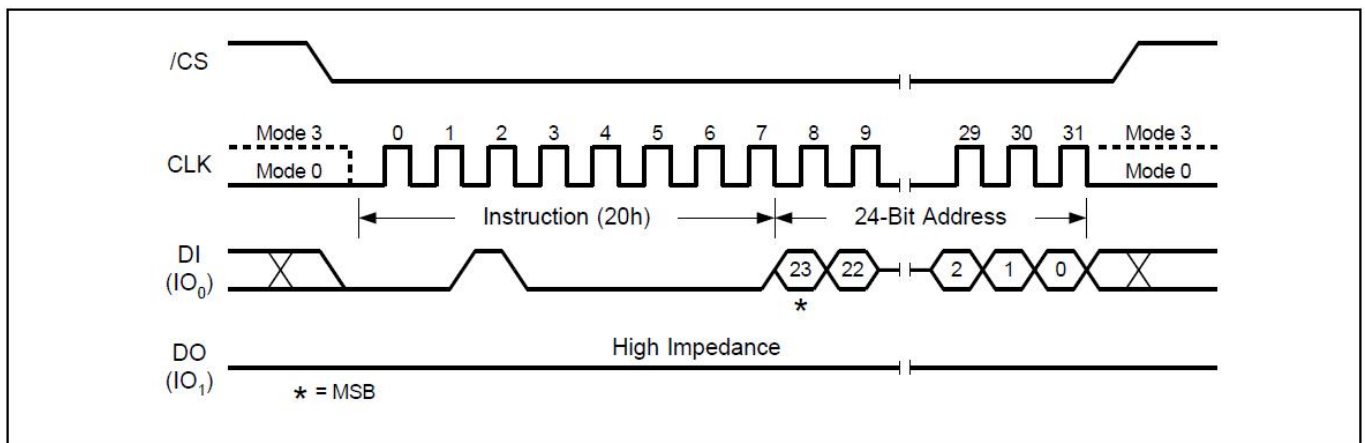

Figure16. Sector Erase Sequence Diagram
The 32KB Block Erase command sequence: CS# goes low → sending 32KB Block Erase command → 3-byte address on DI → CS# goes high. The command sequence is shown in Figure16. CS# must be driven high after the eighth bit of the last address byte has been latched in; otherwise the 32KB Block Erase (BE) command is not executed. As soon as CS# is driven high, the self-timed Block Erase cycle (whose duration is tSE) is initiated. While the Block Erase cycle is in progress, the Status Register may be read to check the value of the Write in Progress (BUSY) bit. The Write in Progress (BUSY) bit is 1 during the self-timed Block Erase cycle, and is 0 when it is completed. At some unspecified time before the cycle is completed, the Write Enable Latch (WEL) bit is reset. A 32KB Block Erase (BE) command applied to a block which is protected by the Block Protect (SEC, TB, BP2, BP1, and BP0) bits (see Table 1-6) is not executed.